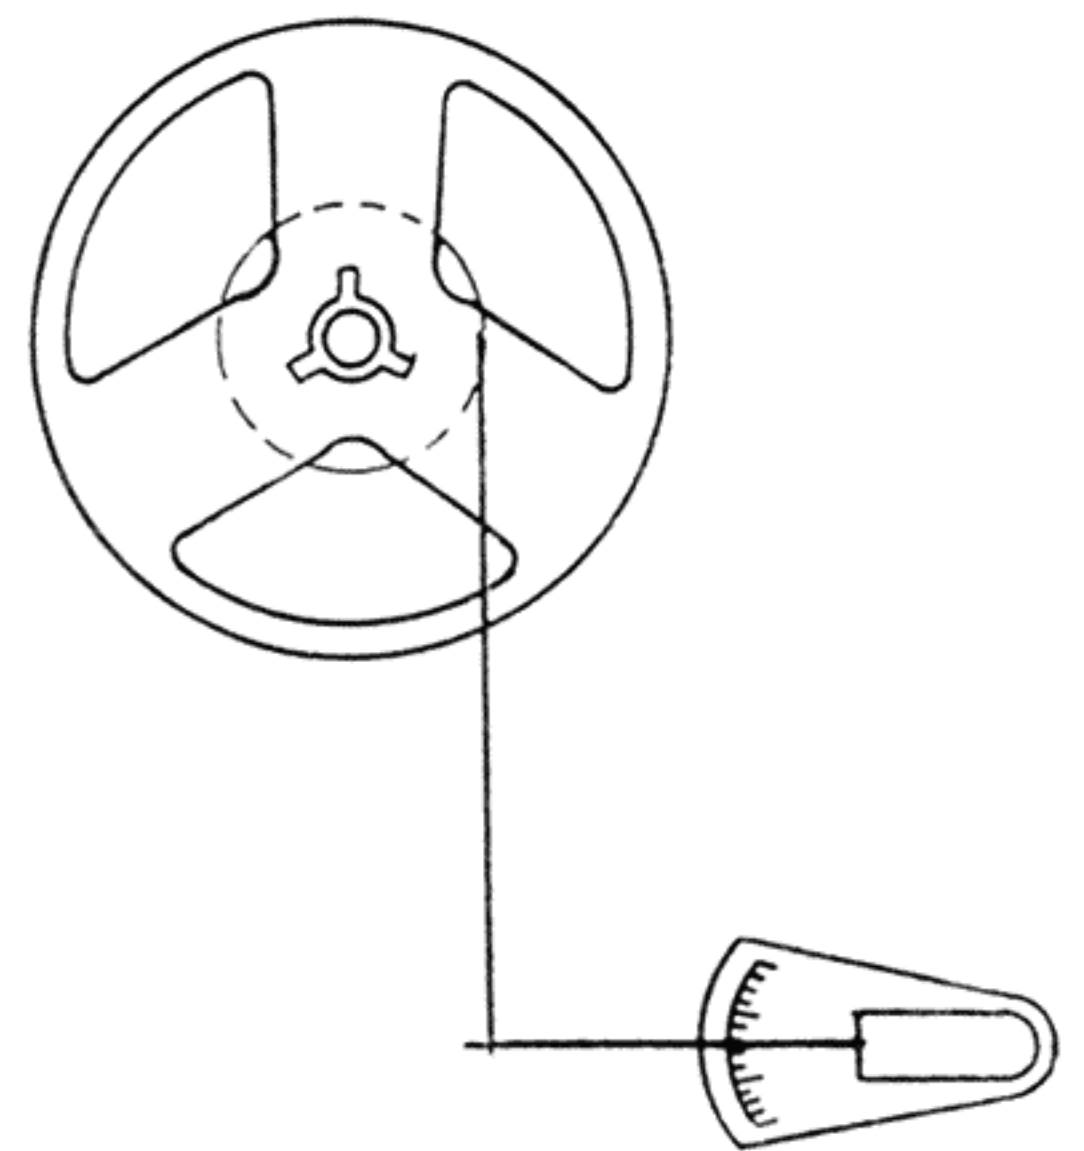

Fig. 9
(4) Rewinding Torque (Fig. 9)
Measure it using 5 inch reel and tension gauge in such a way as shown in Fig. 9. If the torque is too strong, it will cause worse flutter or increase of the current consumption, in this case make the wheel spring (T40268) looser to readjust for normal pressure. On the contrary, if the torque is too poor, tape will not be rewound up completely, then make the spring stronger.